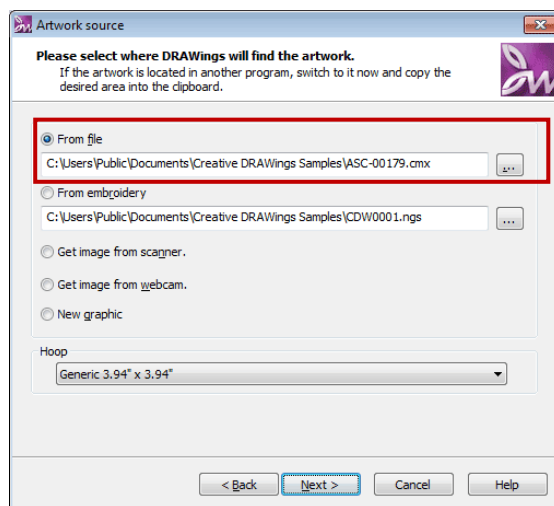

Figure 2.2: Starting dialog - 2nd page
4. The **Artwork source** dialog will appear (Figure 2.2)
13. The **Artwork source** dialog will appear once more (Figure 2.2) with the design you have selected under **From file** field.